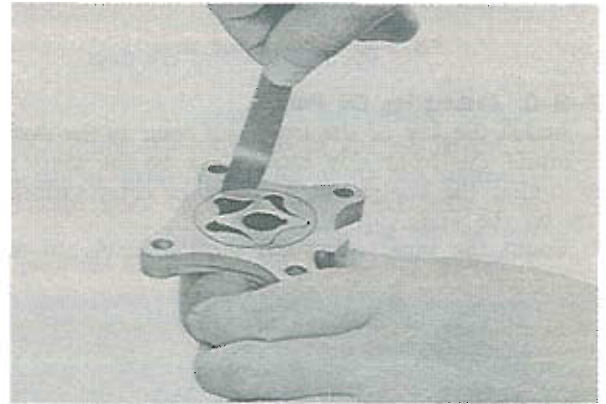

Fig. 2-4 Checking outer-rotor clearance
2. Check the clearance between the outer rotor and pump body with a feeler gauge as shown in Fig. 2-4. The specified clearance is 0.20 ~ 0.25 mm (0.008 ~ 0.01 in). If the clearance is more than **0.30 mm**